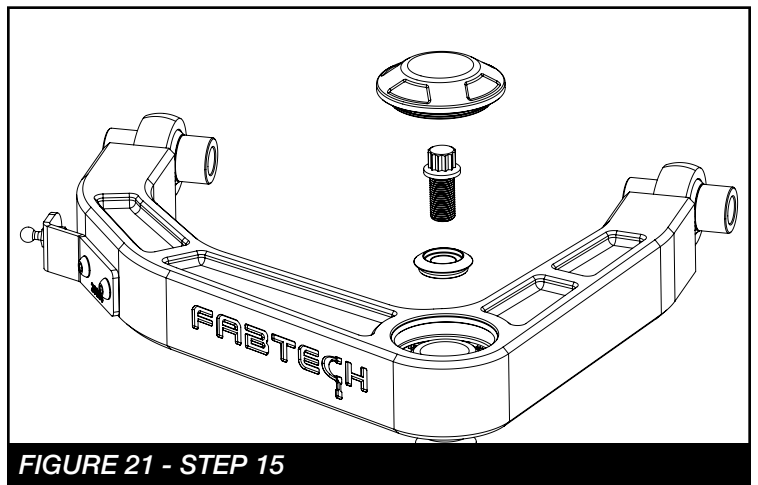

FIGURE 21 - STEP 15
19. Install the new upper control arm bearing to the pin making sure it is fully seated. Then, insert the FT90152 (Upper misalignment) & 1/2-20 - 12 point bolt. Torque to 120 ft-lbs. Then, install FT90154 (Bearing cap). **SEE FIGURE 21**